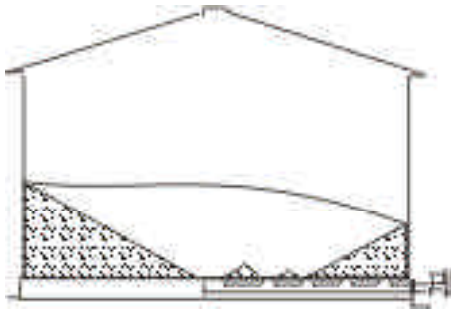
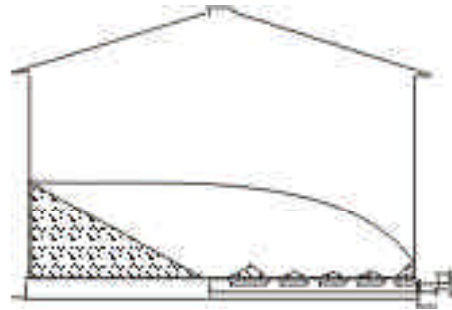

Figure 13
Figure 14
- B. If the bin is equipped with intermediate bin wells, open them after grain has stopped flowing into the center well and before the sweep auger is placed in the bin. Open the intermediate wells near the bin center first. Then when grain flow stops, open the wells near the bin wall. (See Fig. 13 and Fig. 14) The Commercial Bin Sweep Auger can then be installed. Always shut down the unloading equipment, close intermediate wells, and lock out power before entering before entering the bin.